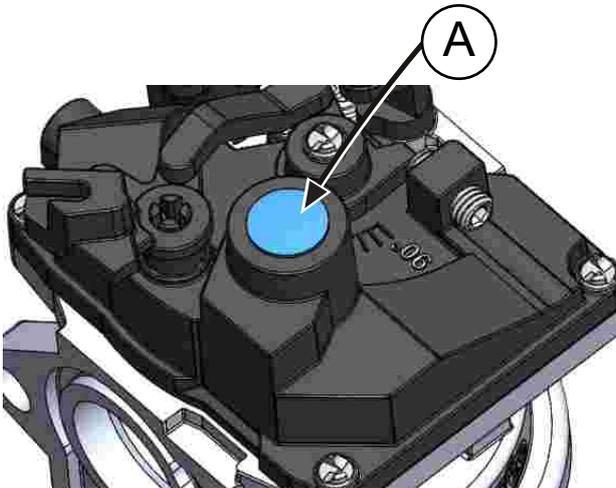

Figure 2.1
- A. Remove the Cover Plug A (Figure 2.1)